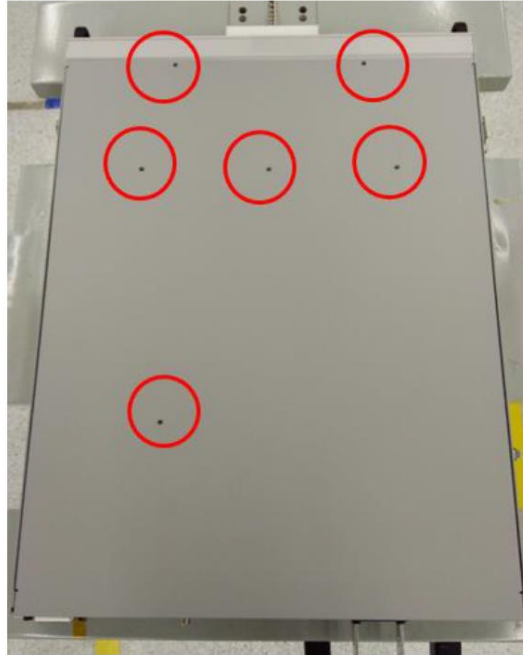

Figure 20
21. Screw 6 screws for the top cover as shown in Figure 20 .